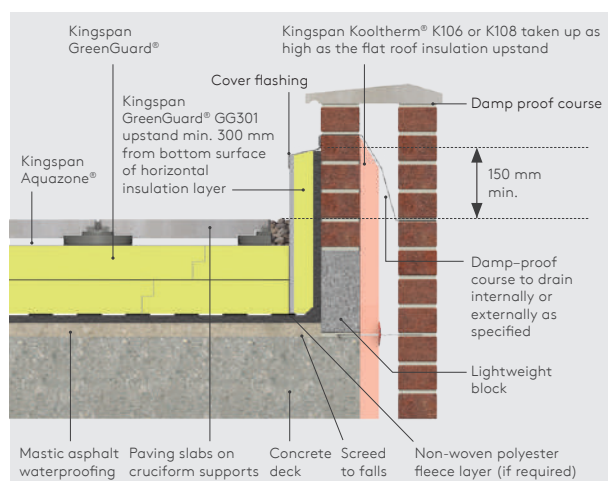

Figure 10 - Parapet abutment
- Lightweight aggregate blockwork to the inner leaf of wall constructions can help to improve thermal performance at junctions generally and where used for the inner leaf of parapet walls it can help to reduce losses (see Figure 10).